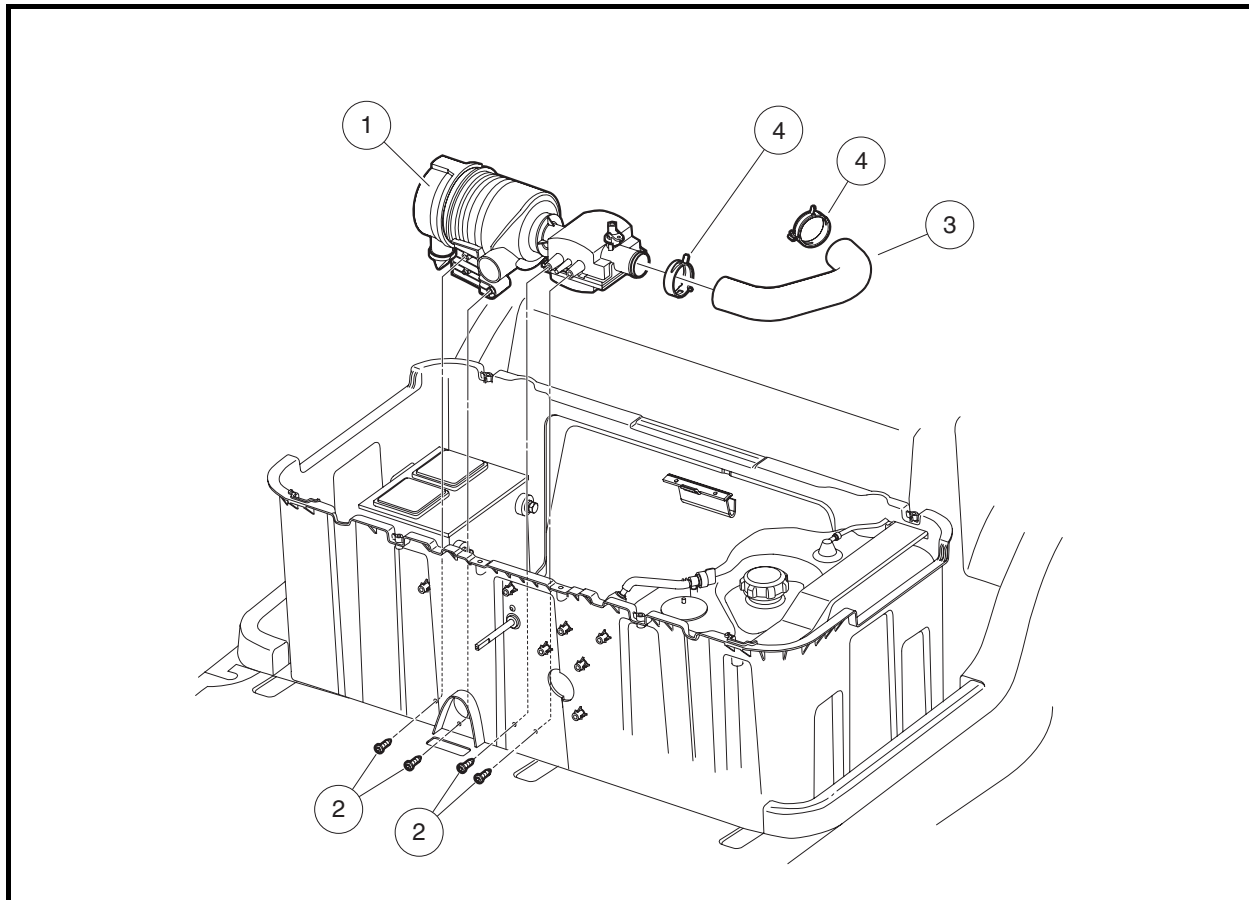

Figure 14-6 Air Intake and Choke Assembly
4. Hose (3) may be removed by removing the clamps (4) at the choke and the carburetor (**Figure 14-6, Page 14-10**)
5. The air intake assembly (1) is secured to the fuel bucket with four screws (2). Access to the screws requires that the kick plate be removed. **See Kick Plate and Choke Button, Section 4, Page 4-7.**
1. Position air intake assembly (1) inside the fuel bucket (**Figure 14-6, Page 14-10**). Secure intake assembly with four screws (2). Tighten screws to 2.7 ft-lb (3.5 N·m).
2. Install hose (3) and secure one end to the air intake assembly (1) and one end to the carburetor. Install clamps (4) to secure the hose in place.